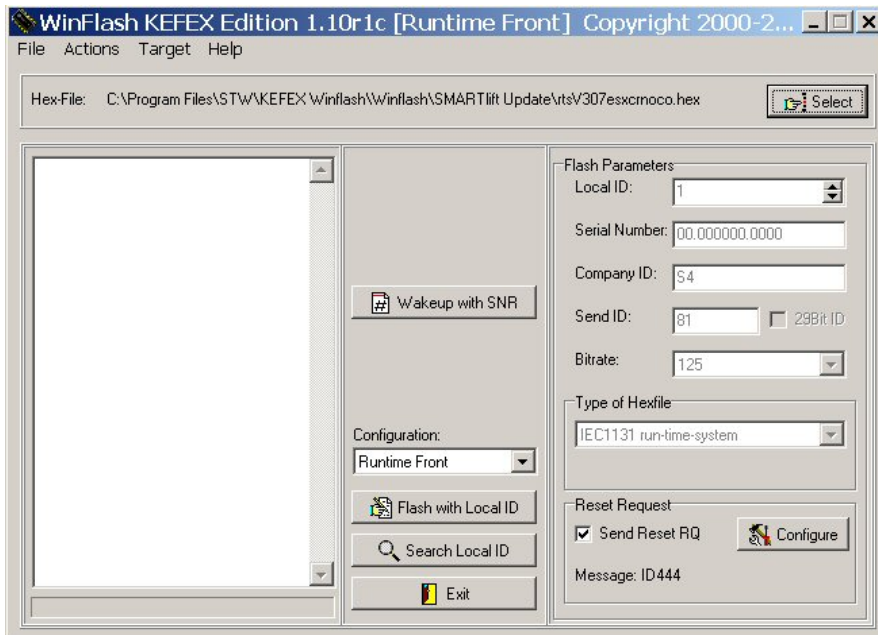

Figure 2
3. On the laptop, start Winflash and in the Configuration box select Runtime Front. As shown in Figure 2 below. Press the button Flash with Local ID and wait until a dialogue box appears. Select Do not start, stay in sleep mode.
3. Start Winflash and in the Configuration box select Runtime Front. As shown in Figure 2. Press the button Flash with Local ID and wait until a dialogue box appears. Select Do not start, stay in sleep mode.